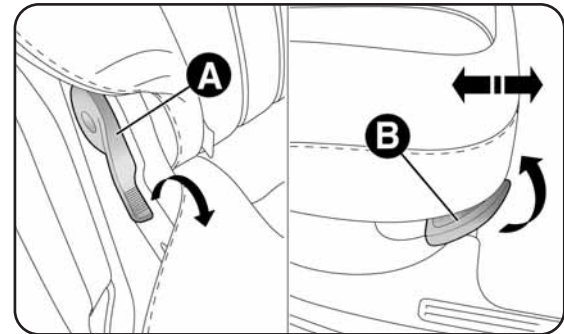

fig. 58
- operate one of the levers A-fig. 58 to fold back the required backrest (to make this procedure easier, move the seat slightly forward using lever B, for versions/markets, where provided);
To further extend the luggage compartment, the rear seats can be pushed forwards by operating handle B-fig. 58 (for versions/markets, where provided).
Move the seat belts to the side, making sure that they are correctly extended and not twisted. Press levers A (fig. 58), lift up the backrests and push them backwards until you hear a click from both attachment mechanisms.
Use handle B (fig. 58, for versions/markets, where provided) to move the seats back until you hear a click.